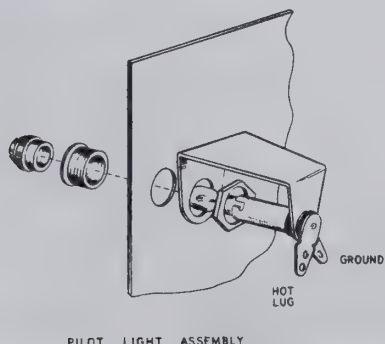

Figure 7
- (✓) Mount the pilot light in the upper right panel hole, as viewed from the front. See Figure 7 for method of mounting.